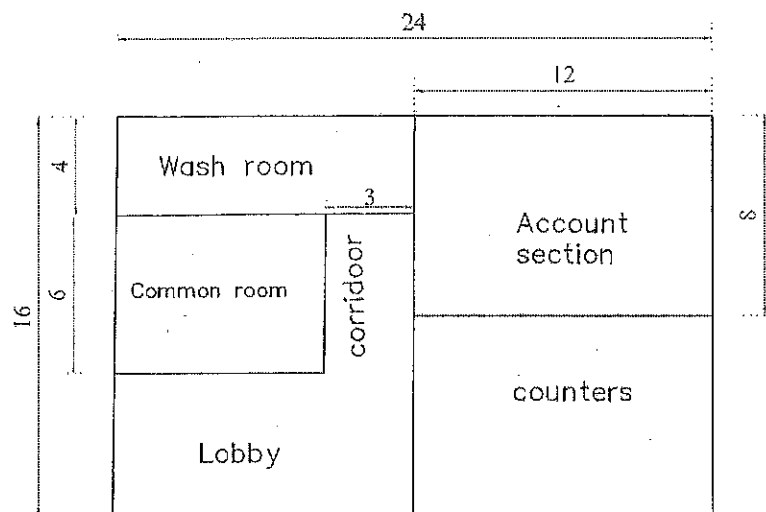
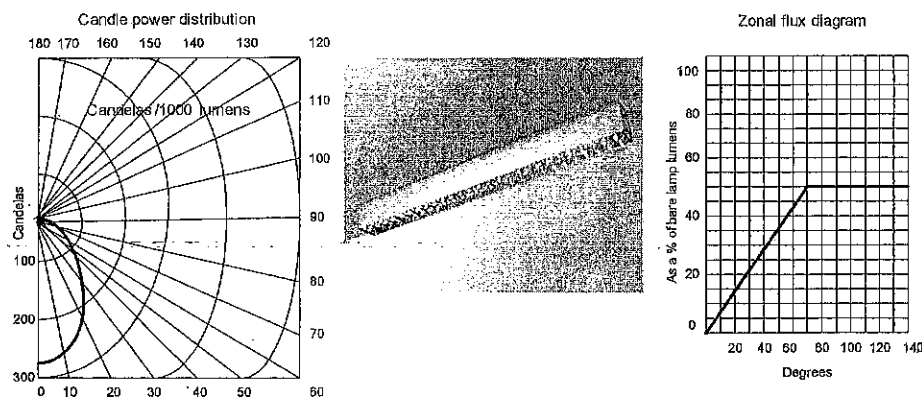

Figure Q1a Building Layout
Figure Q1b Recess type with louvered over for Twin fluorescent (2 X 40W) lamp
1. Figure Q1a shows the layout of a commercial building. All the dimensions are given in meters. Building is 4 m height with white walls. 40W fluorescent tube lights (having 2400 lumen output) with twin tube fitting is proposed to be used as the light fitting. Photometric data of a light fitting is given in Figure Q1b and Table Q1a. Design a lighting scheme for given building with lighting layout by filling Q1b as required. Clearly state any assumption made during your calculations.